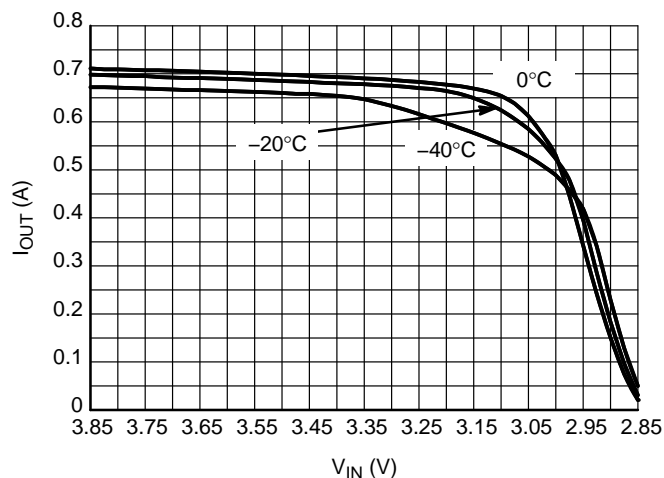

Figure 18. Output Current Capability for the 2.85 V Version
32. For output current capability for  $T_A < 0^{\circ}\text{C}$ , please refer to Figures 18 to 22.